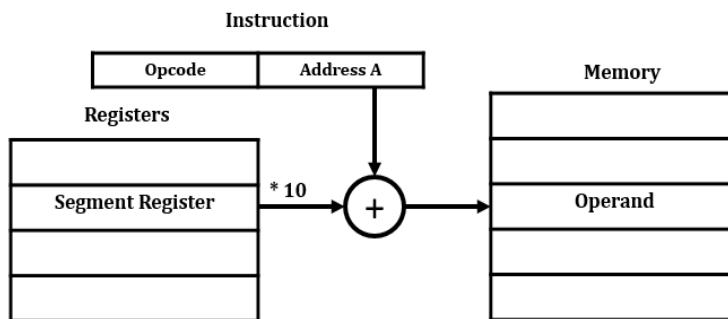

Figure 2.7: Direct Memory Addressing Mode.
- In Register & Immediate Addressing Mode, Execution Unit (EU) has direct access to Register & Immediate data.
- The physical address is generated by adding this to segment register \* 10 H as shown in figure 2.7.